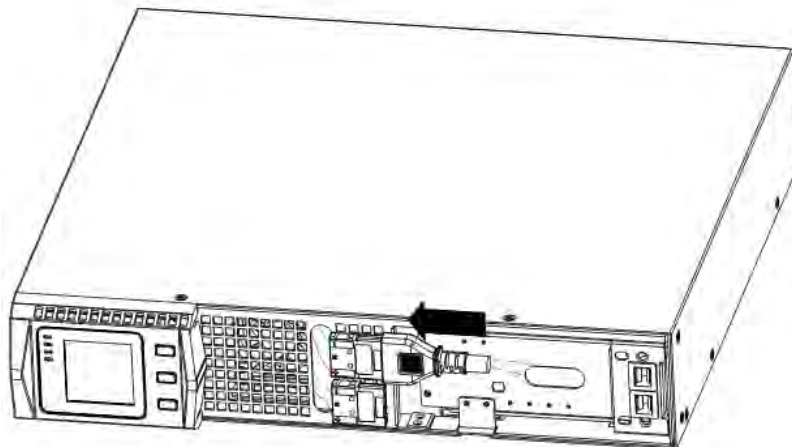

FIG.8 Connecting the UPS Internal Batteries
2. Connect the internal battery connector (see FIG. 8)